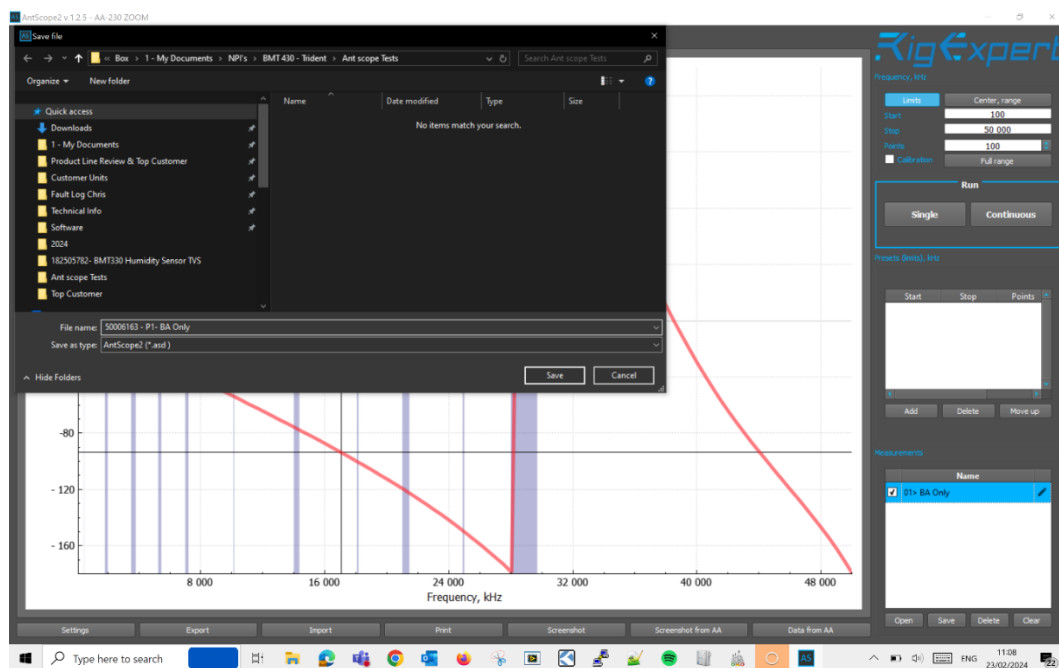

Figure 11-68: Save File "<serial#> - <phase> -BA Only"
- For installation records, save the data using the following naming convention <BMT serial#> - <phase> -BA Only and click Save in the Save File dialog as shown in Figure 11-68. For example, 50006163 - P1 - BA Only.